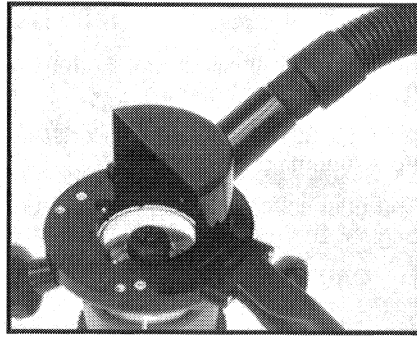

Fig. 5
2. Attach vacuum hose from your vacuum cleaner (or dust collection system), to the hose connector on the edge attachment (see Fig. 5).